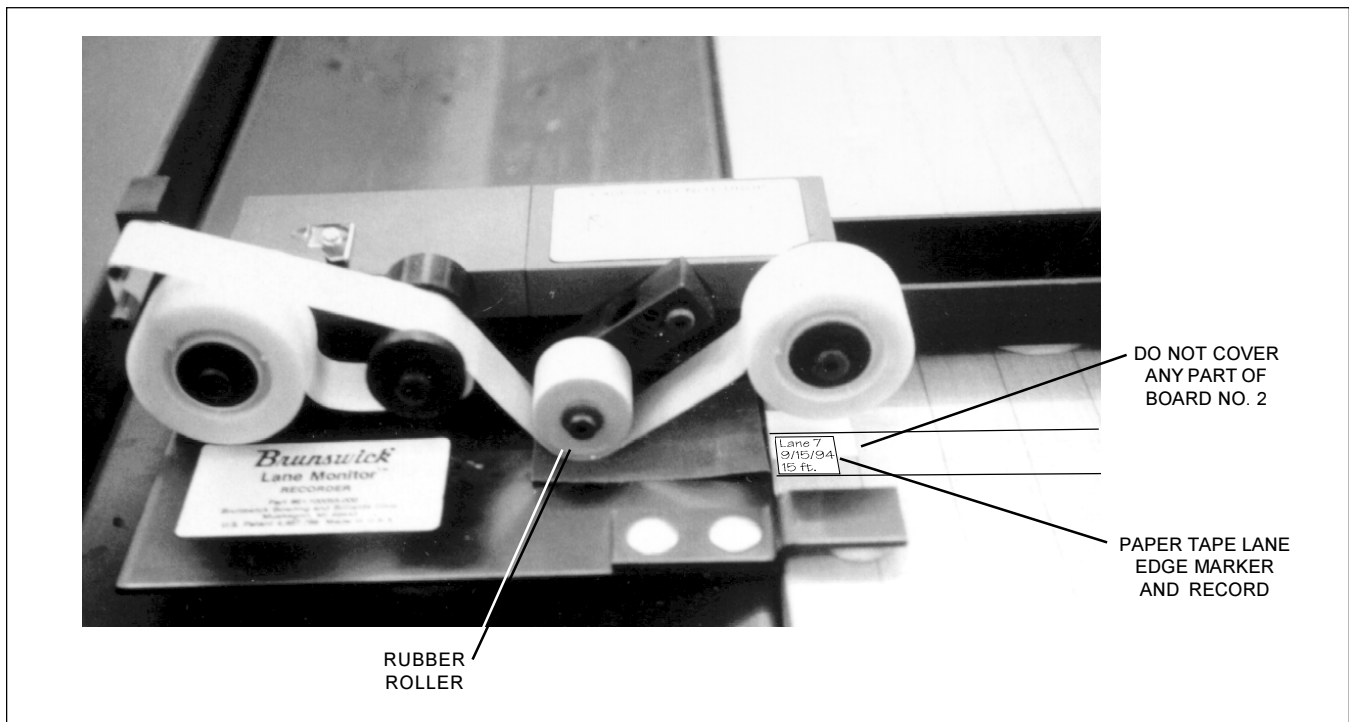

Figure 6 - Recording Sample Information
1. Mate the carriages as shown in Figure 6 on the next page.
3. Place the mated carriage assembly in the track with the lifter carriage tight against the anchor post. The tape reels and the rubber roller will be on the starting plate. See Figure 6.
4. Place a one-inch square of thin paper tape on the outer edge of BOARD NO. 1 to mark the TEN-PIN EDGE of the lane as shown in Figure 6. The LANE NUMBER, SAMPLING LOCATION, and DATE may be marked on this paper in advance. Note: 3M brand #658 Post-It tape, sold as Brunswick part no. 61-100057-000 is include and recommended for use with the Computer Lane Monitor automatic positioning feature.